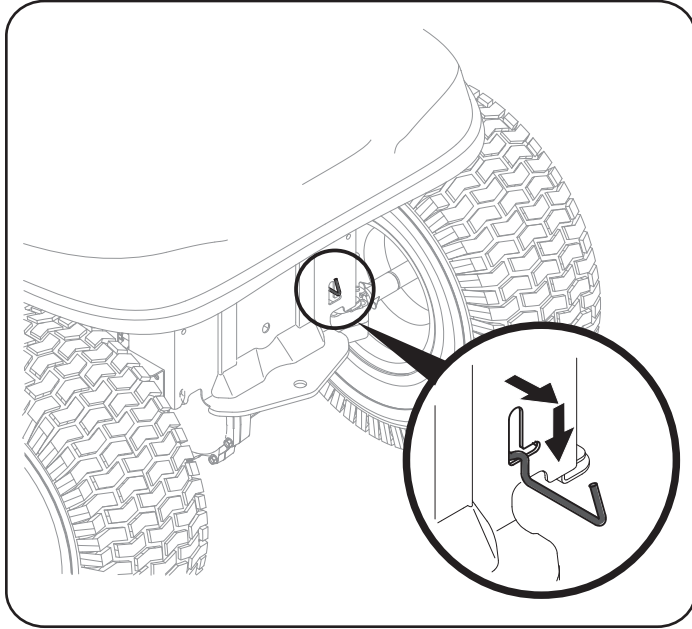

Figure 2
1. Locate the hydrostatic bypass rod in the rear of the tractor. See Figure 2.